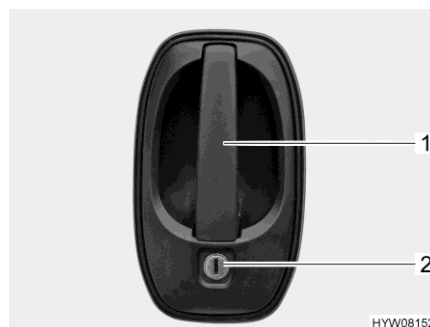

Fig. 40 Door lock (driver's door/conversion door, outside)
- Insert the key into locking cylinder (Fig. 40,2) and turn until the door lock is unlatched.
- Pull on the door handle (Fig. 40,1). The door is open.
- Insert the key into locking cylinder (Fig. 40,2) and turn until the door lock is engaged.